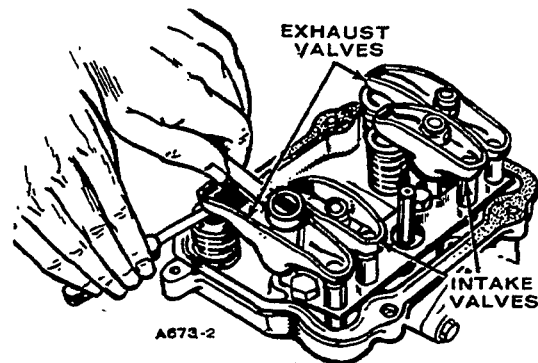
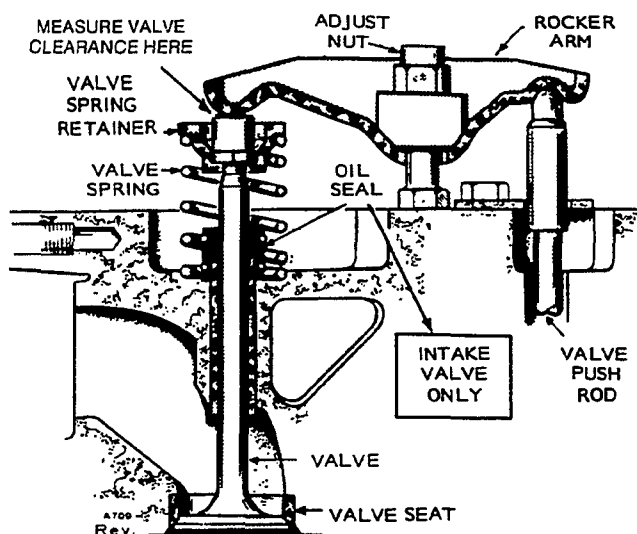

FIGURE 100. CHECKING VALVE CLEARANCES
FIGURE 101. SETTING VALVE CLEARANCE
- C. Using a feeler gauge, check clearance between rocker arm and valve, Figure 100. Increase or reduce clearance until proper gap is established; adjust with lock nut which secures rocker arm to cylinder head, Figure 101. Refer to *SPECIFICATIONS* for correct valve clearance setting for your particular engine.
9. Set valve clearance. See Figure 101.